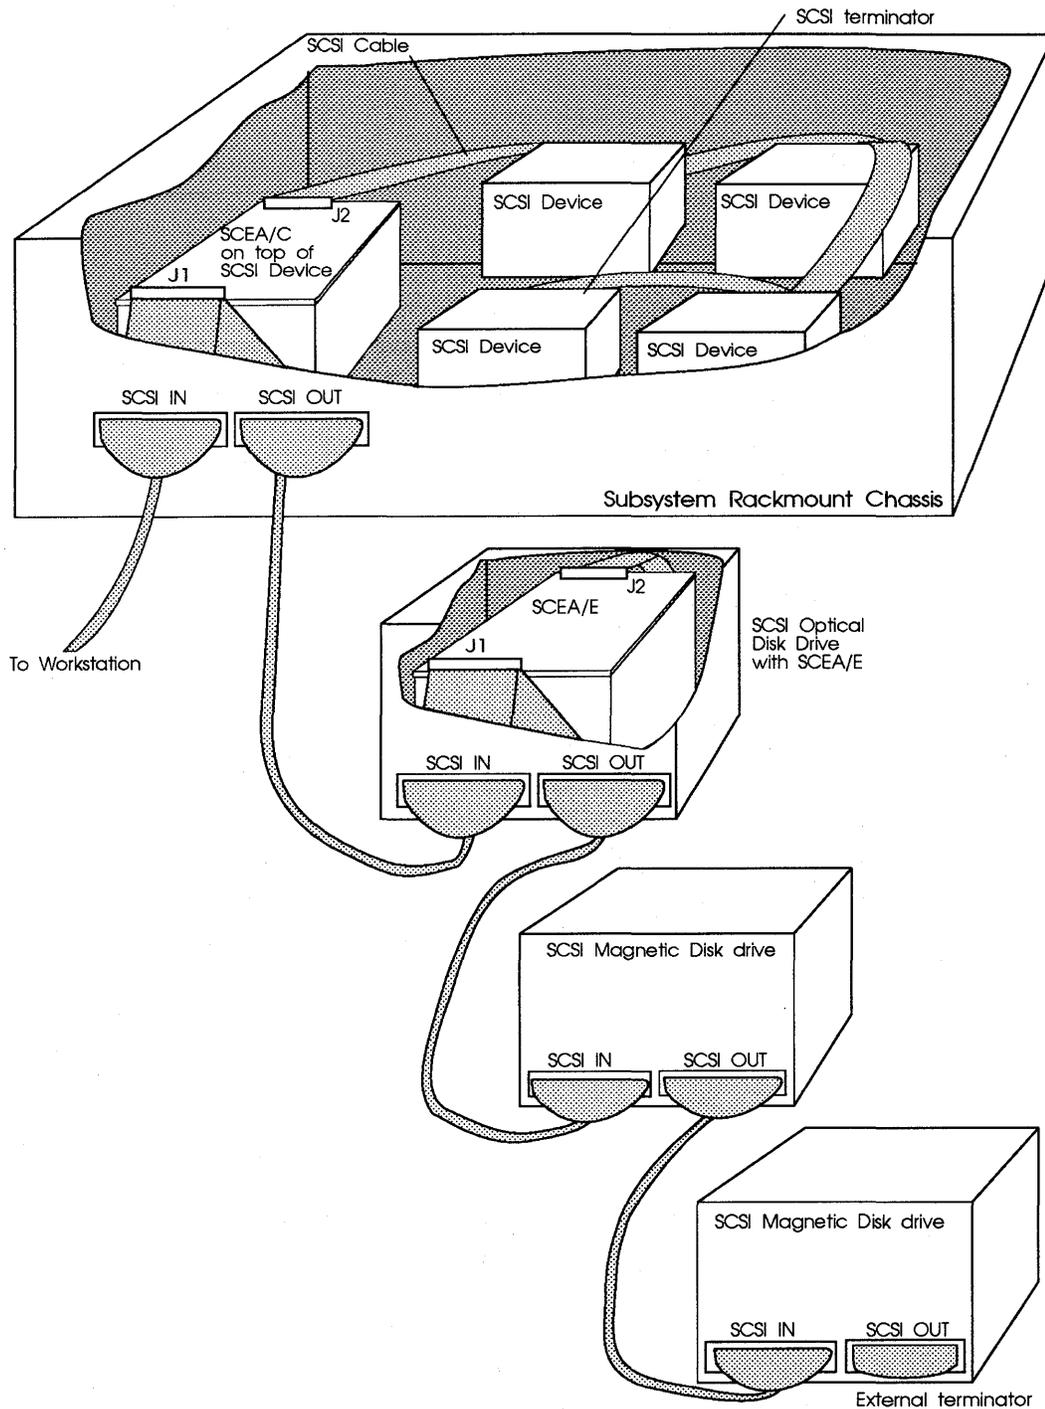

Figure 3-8: Cabling example from inside Subsystem
Figure 3-8 shows the SCEA/C inside the subsystem rackmount chassis with devices connected and SCEA/E inside the optical drive.
SCSI devices can be terminated directly on the device (see manufacturer's documentation) or by using an external terminator as shown in Figures 3-8.
- 19** Connect the other end of the external SCSI cable to the SCSI device connector (align pin 1 of the cable to pin 1 of the connector). Up to seven devices may be installed by correctly cabling to other SCSI devices as shown in Figures 3-8.